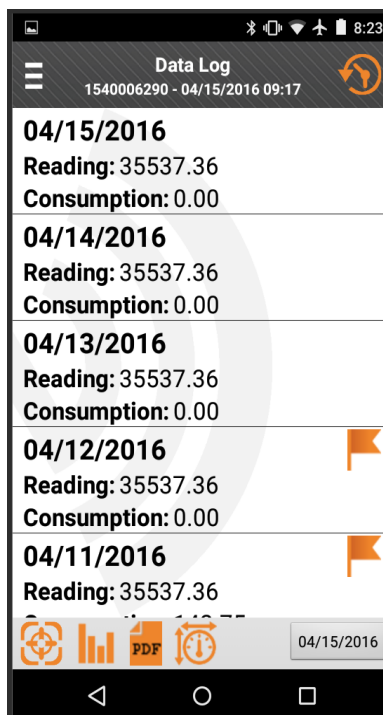

Figure 11 Data Log Screen
- 2 From the main **Data Log** screen, select one of the following options. See Figure 11 on page 16.